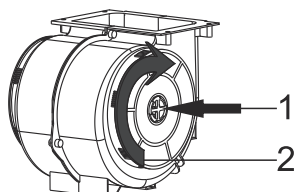

Fig. 6: CARBON FILTER
- 1-Place the carbon filter in its housing.Fig. 6
- 2-Rotate the carbon filter clockwise and make sure that it is seated completely.Fig. 6